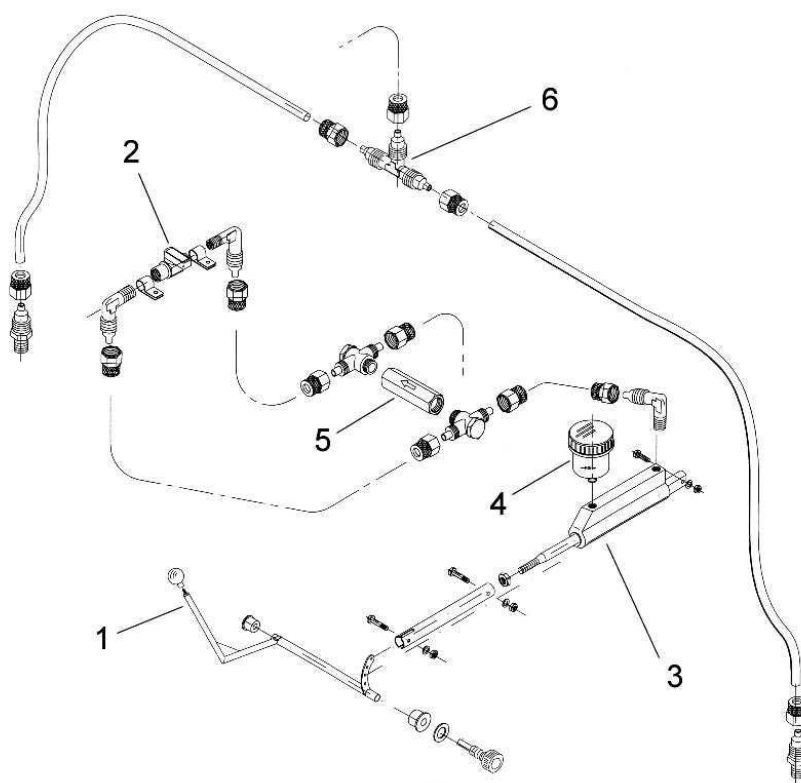

Figure 4-13 Brake circuit
Wheels are cantilevered on gear struts and feature hydraulically actuated disc brakes (see fig. 4-13) controlled by a lever (1) located on cabin tunnel between seats. Main gear wheels mount Air-Trac type 5.00-5 tires inflated at 23 psi (1.6 bar). Hydraulic circuit shut-off valve (2) is positioned between seats. With circuit shut off, pulling emergency brake lever activates parking brake function.